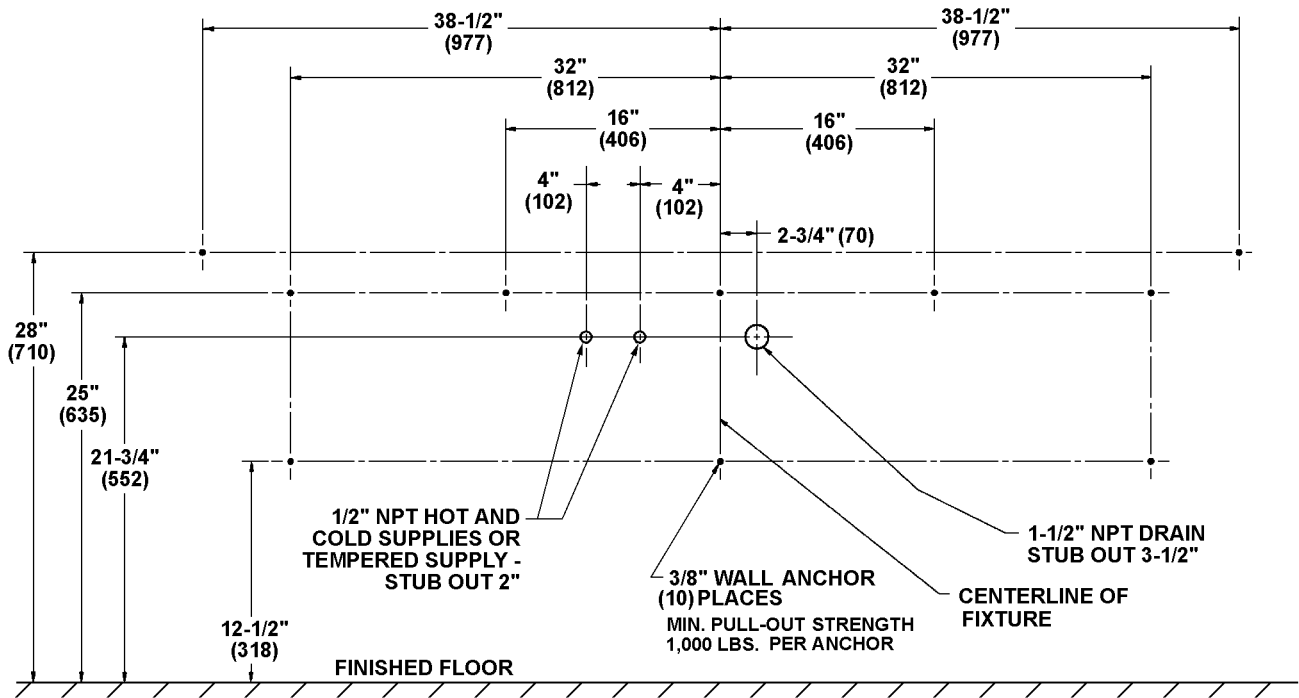

Figure 1b
Note: See Figure 1a below and Figure 1b on page 5 when roughing in the Express®.
3. Install (10) 3/8" wall anchors with a minimum pull-out rating of 1,000 lbs. (supplied by installer) at the locations shown in Figure 1a below (or Figure 1b on page 5).